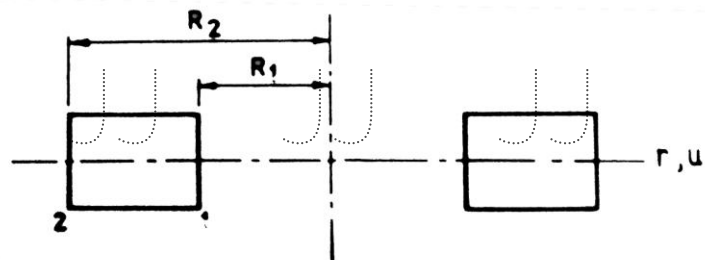

Figure 4
7. Derive the element stiffness matrix for the following figure 4 axisymmetric annular ring element. [10]